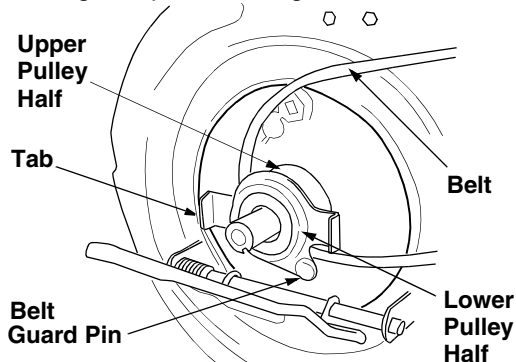

Figure 22
- Place the belt between the two pulleys halves on the crankshaft. Make sure to route the belt inside the belt guard pins. See Figure 22.